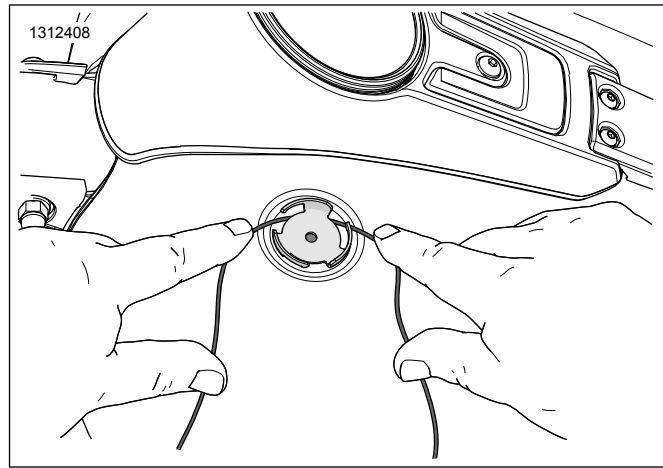

Figure 4. Bracket Removal
2. See Figure 4. Remove existing left side bracket.